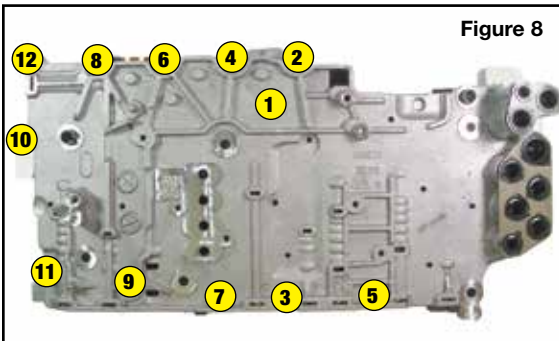

Figure 8
- Remove the 12, 7mm head bolts (Figure 8).
- a. Install the 12, 7mm head bolts and torque to 71 in-lbs. in sequence shown (Fig. 8).